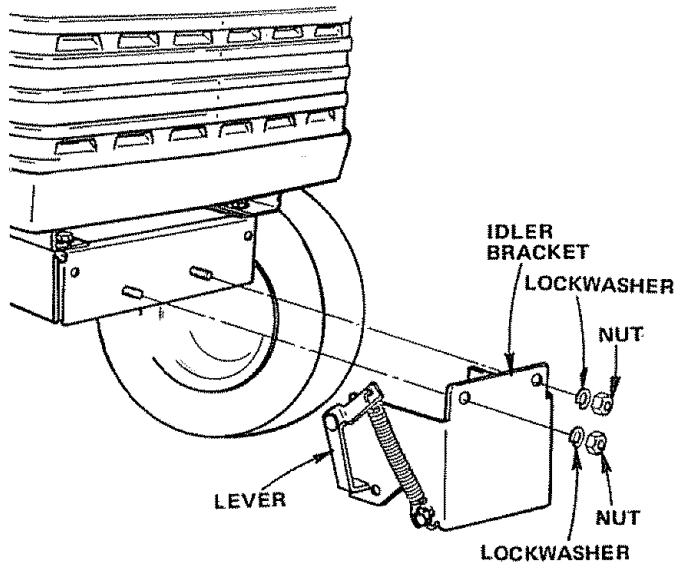

FIGURE 32
2. Remove Lockwashers and Nuts from Idler Bracket (Fig. 32).